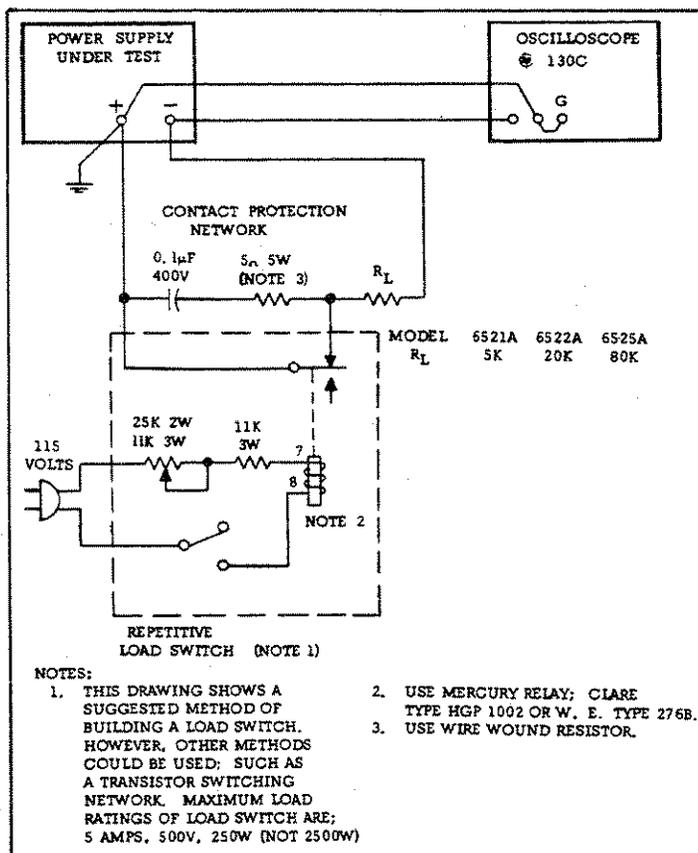

Figure 5-1. Transient Recovery Time Test Setup
a. Connect the load resistance (value shown in Figure 5-1), 100:1 voltage divider, and the differential voltmeter to the T-connector.
a. Connect test setup shown in Figure 5-1.
- Connect the load resistance (value shown in Figure 5-1), 100:1 voltage divider, and the differential voltmeter to the T-connector.